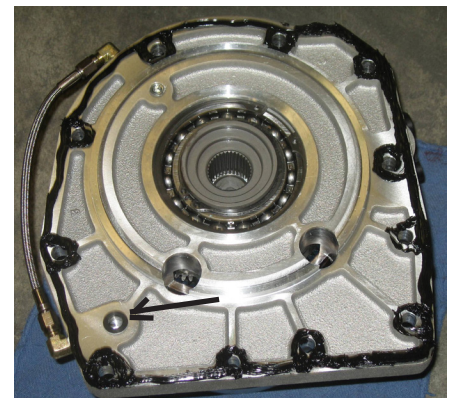

Figure 8: RTV Pattern
3. Reclean the transmission face and the front face of the RubiCrawler using solvent. Apply an 1/8" bead of the supplied Chrysler (ATF+4 compatible) RTV to the RubiCrawler as shown in Figure 8.
4. Reinstall the O-ring as shown in Figure 8. This is very important for the RubiCrawler and Transmission lubrication circuits.